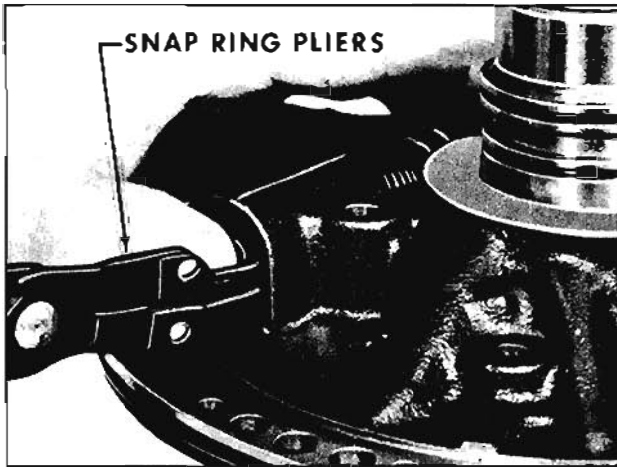

Fig. 6-239 Removing Snap Ring
10. Compress reverse and modulator boost valve with thumb and remove retaining snap ring. (Fig. 6-239)